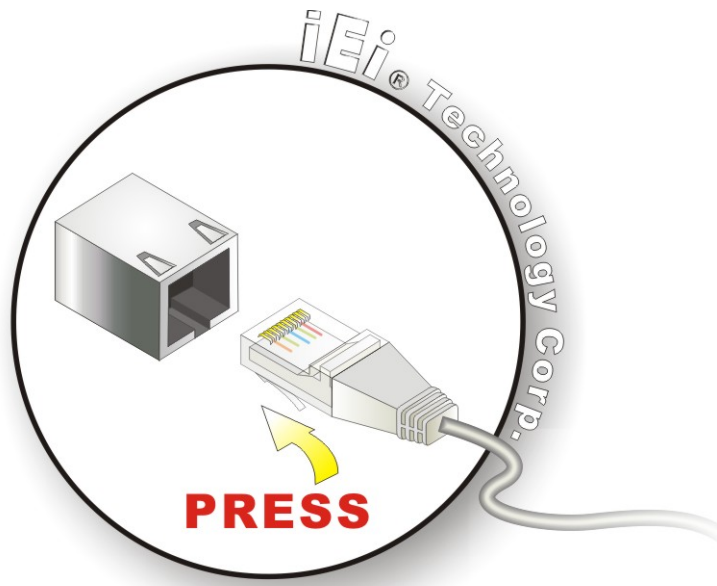

Figure 4-18: LAN Connection
Step 2: Align the connectors. Align the RJ-45 connector on the LAN cable with one of the RJ-45 connectors on the NANO-PV-D4252/N4552/D5252. See Figure 4-18.